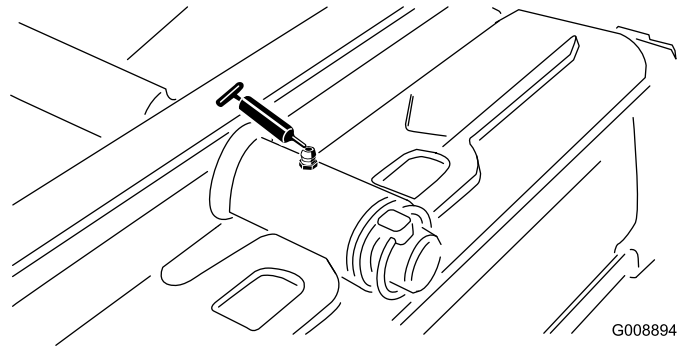

Figure 59
- Rear cutting unit pivot (Figure 59)